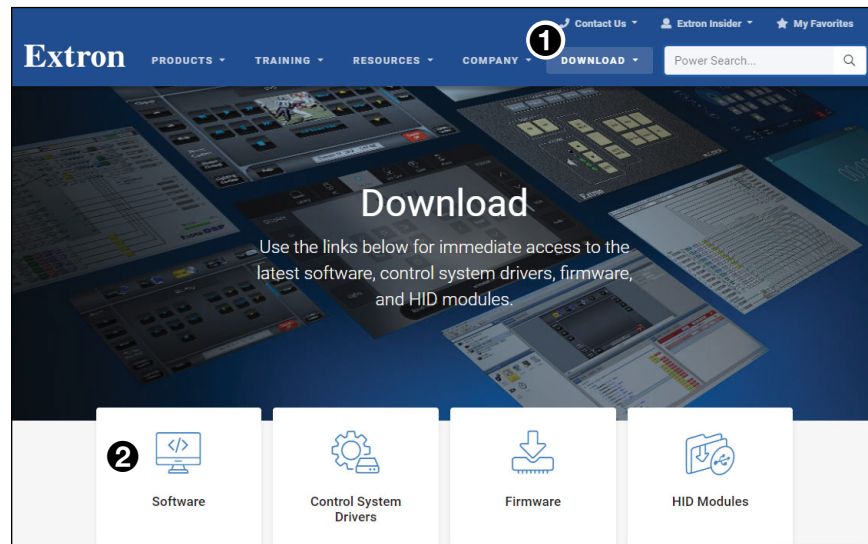

Figure 24. Extron Download Page
1. Select the **Download** button (see figure 24, ①) and then click the **Software** option (②).